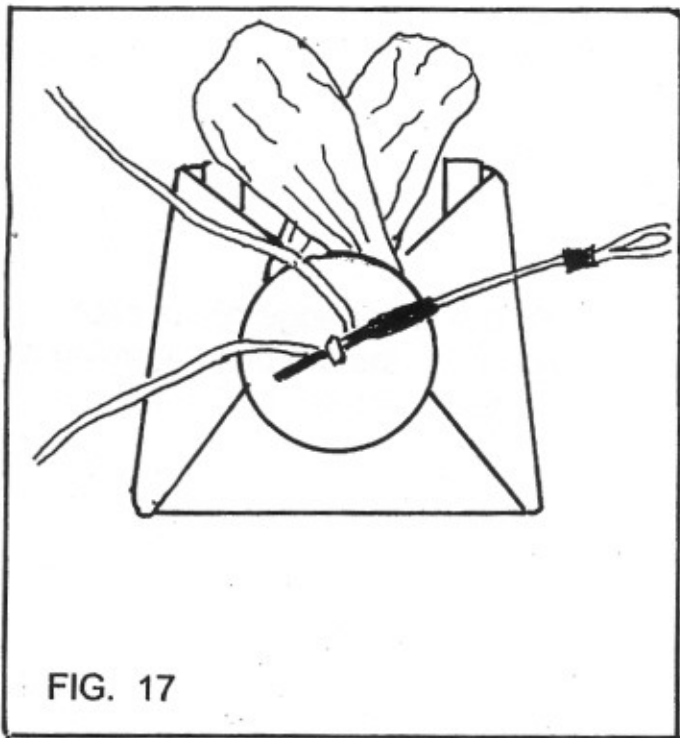

FIG. 17
The upper part of this "V" can now be given a half-twist, one side over the other as shown in FIG. 17. (This step will help prevent the fabric from shifting out from under the top plate.)
16) Lay the pilot chute out in a full circle with the mesh side up and fold it in half with the mesh on the inside as shown in FIG. 17.